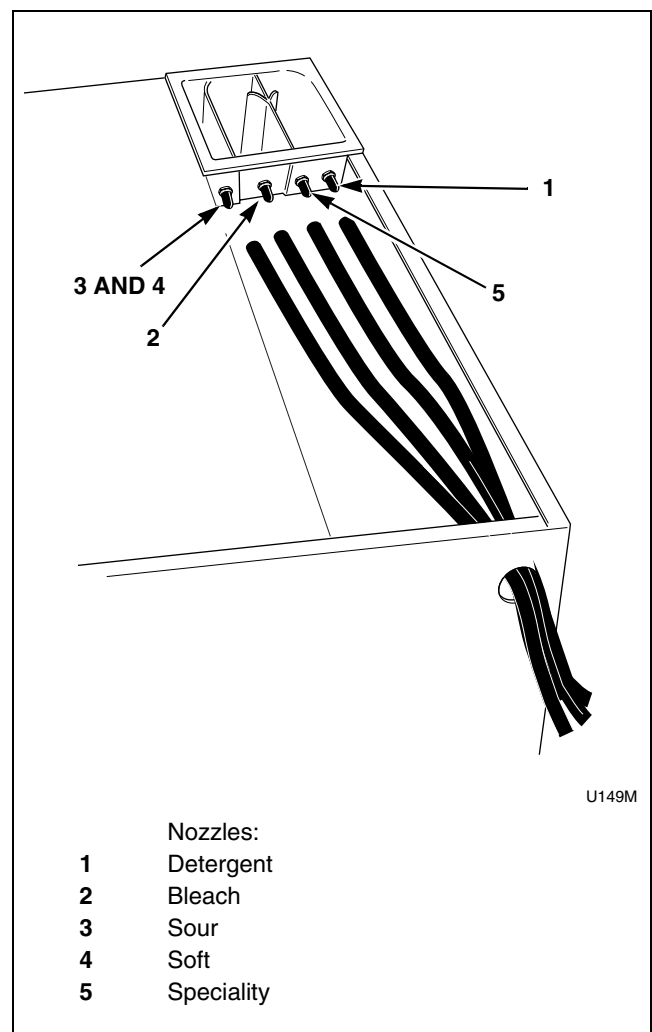

Figure 22
3. Locate the 4 capped nozzles on the rear of the liquid supply dispenser and remove caps. Refer to *Figure 22*.